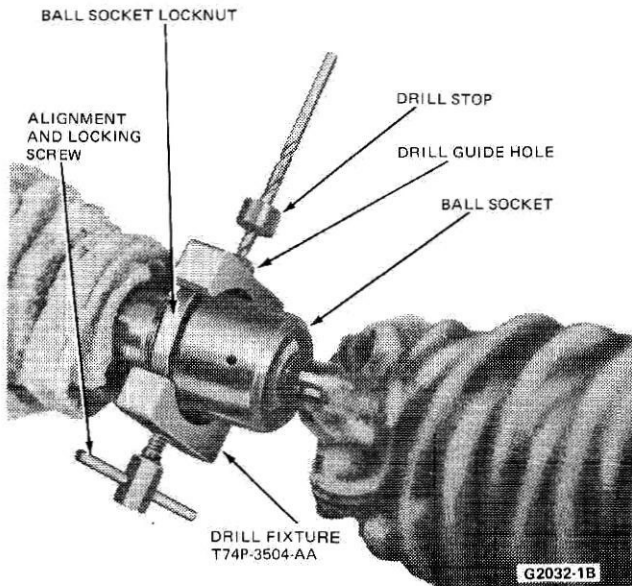

FIG. 5 Drilling Out Retaining Pin - Pinto/Bobcat/Mustang II
6. Tape cloths around the rack end on both sides of the ball socket, to prevent chip contamination. Install Tool T74P-3504-AA on the ball socket. Position the fixture so that the pin in the ball socket is in line with the guide hole in the drill fixture. The cone points of the alignment and locking screws are to be positioned between the locknut and the ball socket and tightened firmly (Fig. 5).
7. Place the drill in the fixture guide hole and drill out the retaining pin. The drill guide prevents the hole from being drilled too deep (Fig. 5). (Both right and left tie rods and sockets are removed in this manner.)